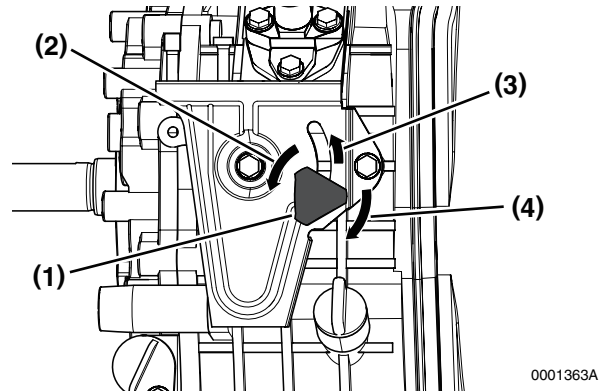

Figure 19
3. If your engine speed control is similar to **Figure 19**:
- Turn the engine speed control knob (**Figure 19, (1)**) to the left (**Figure 19, (2)**).
- Slide the engine speed control knob to the STOP position (**Figure 19, (3)**).
- Turn the engine speed control knob to the right (**Figure 19, (4)**) to tighten it.